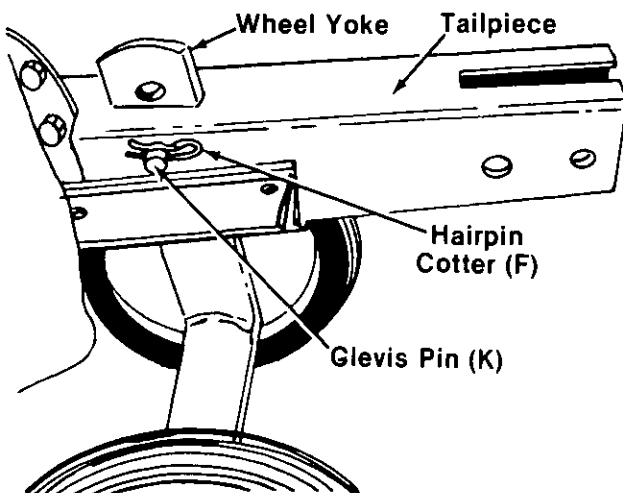

FIGURE 6.
- Place the end of the wheel yoke up through the rectangular hole in the tailpiece. Secure with clevis pin (K) and hairpin cotter (F). See figure 6.